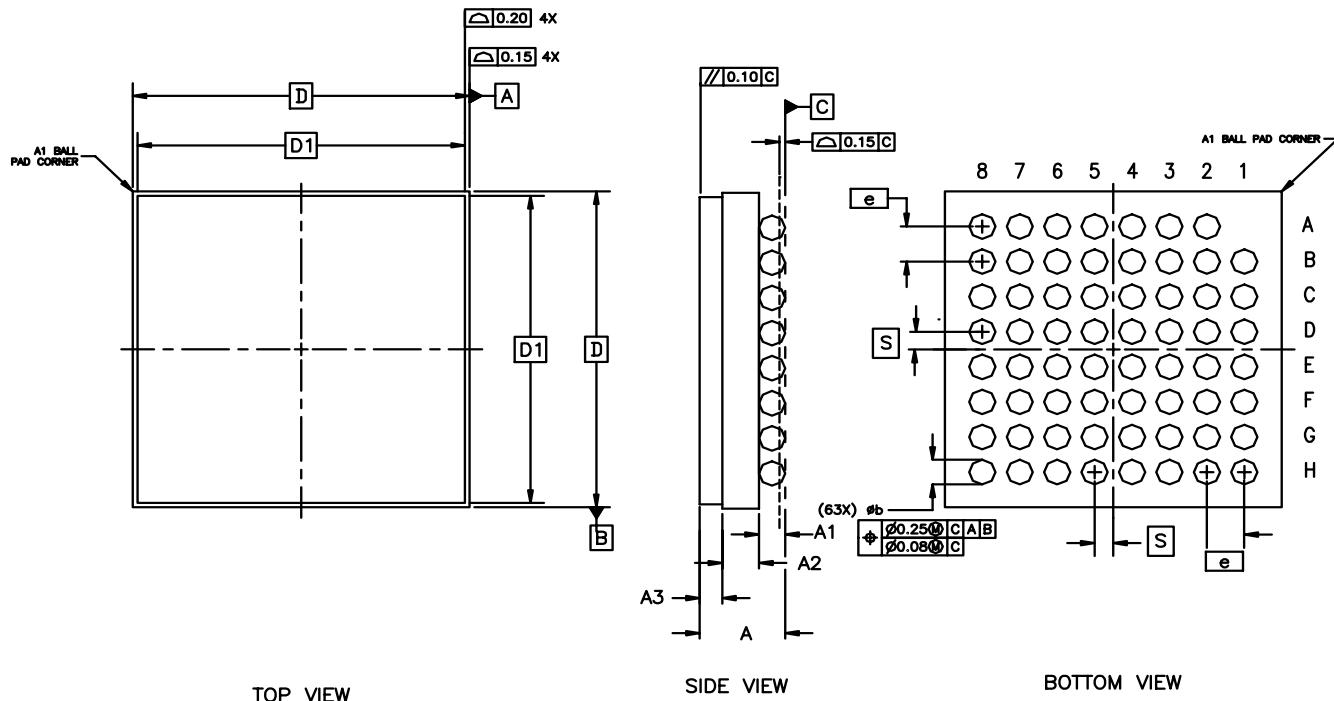

Figure 12. 63-Ball Ceramic Ball Grid Array (CBGA)
Figure 12 illustrates the package details for the Si5321. Table 11 lists the values for the dimensions shown in the illustration.
- Updated Figure 12, "63-Ball Ceramic Ball Grid Array (CBGA)," on page 31.